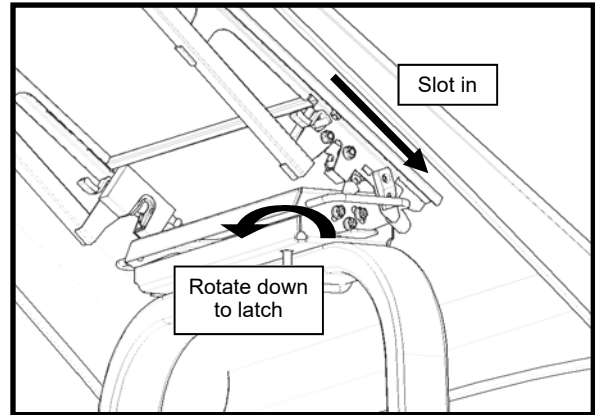

Fig. 5A (Latch Canopy)
5. Loosen the jam nut on each bumper (ref. figure 5B), then mount and latch the canopy per fig. 5A. With one hand, push upwards on the canopy to take up the play in the latches. With the other hand, unthread both bumpers down finger tight to the striker plate. Unlatch and pivot the canopy up to further unthread each bumper equally one full turn at a time. Re-latch and check latching resistance after each adjustment. The bumpers should stabilize the canopy and it should require downward force to latch, but not so much that double clicking the latches becomes difficult. Unlatch a final time and tighten the jam nut on each bumper to 10 ft-lbs.